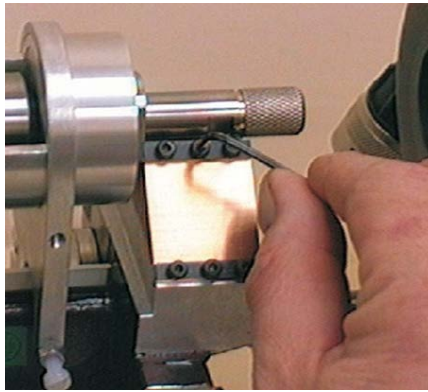

Figure 58: Plate Spring with Screws
4. Release, but do not remove, the screws holding the front of the plate springs. Refer to Figure 58.